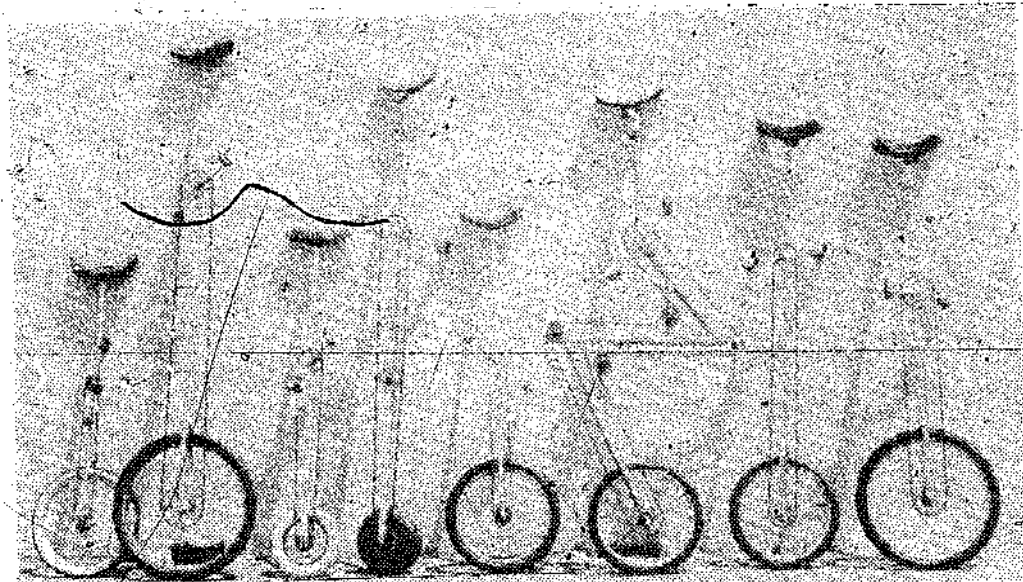

Fig. 15-29. Novelty giraffe unicycles used by Great Y Circus.
**Novelty Giraffe Unicycles.** Figure 15-29 shows a number of novelty giraffe unicycles used by the *Great Y Circus*.